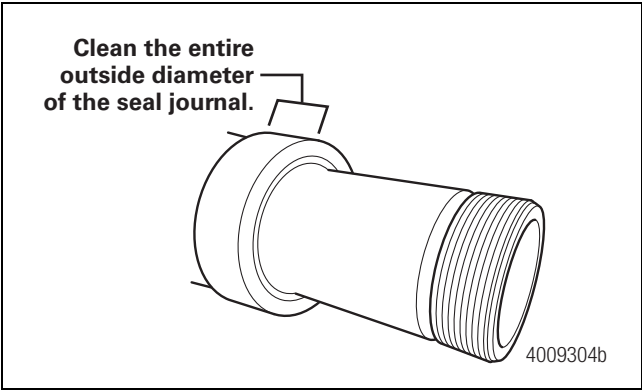

Figure 2
6. Clean the seal mating surface on the axle spindle to ensure it is free of rust, dirt, scratches and sharp edges. It is critical that the seal collar, where dirt and grime build up, be thoroughly cleaned with Emery cloth so that the bare metal is showing before installing the new seal. Figure 2.